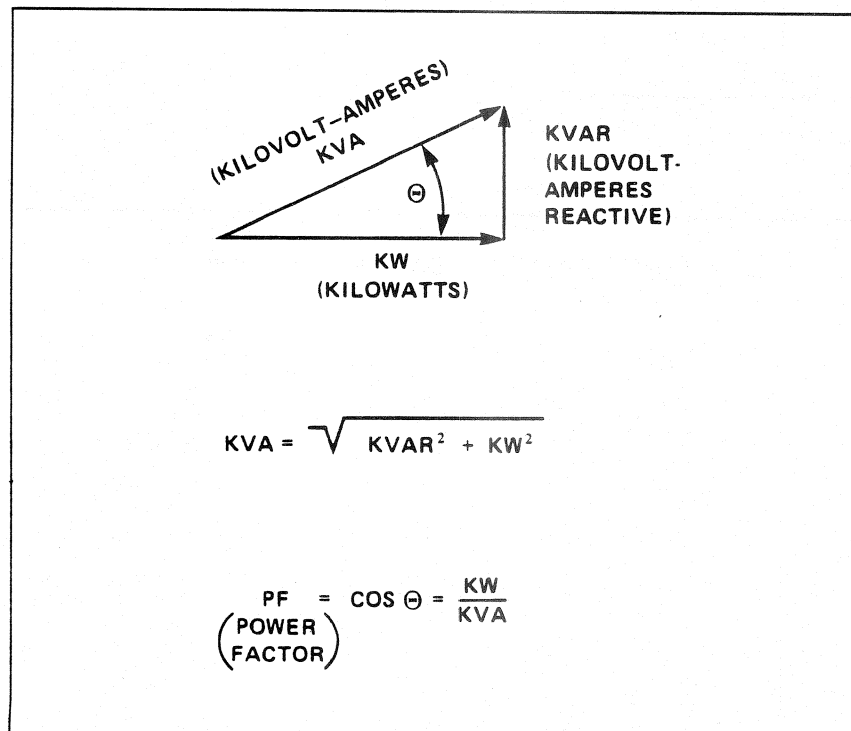
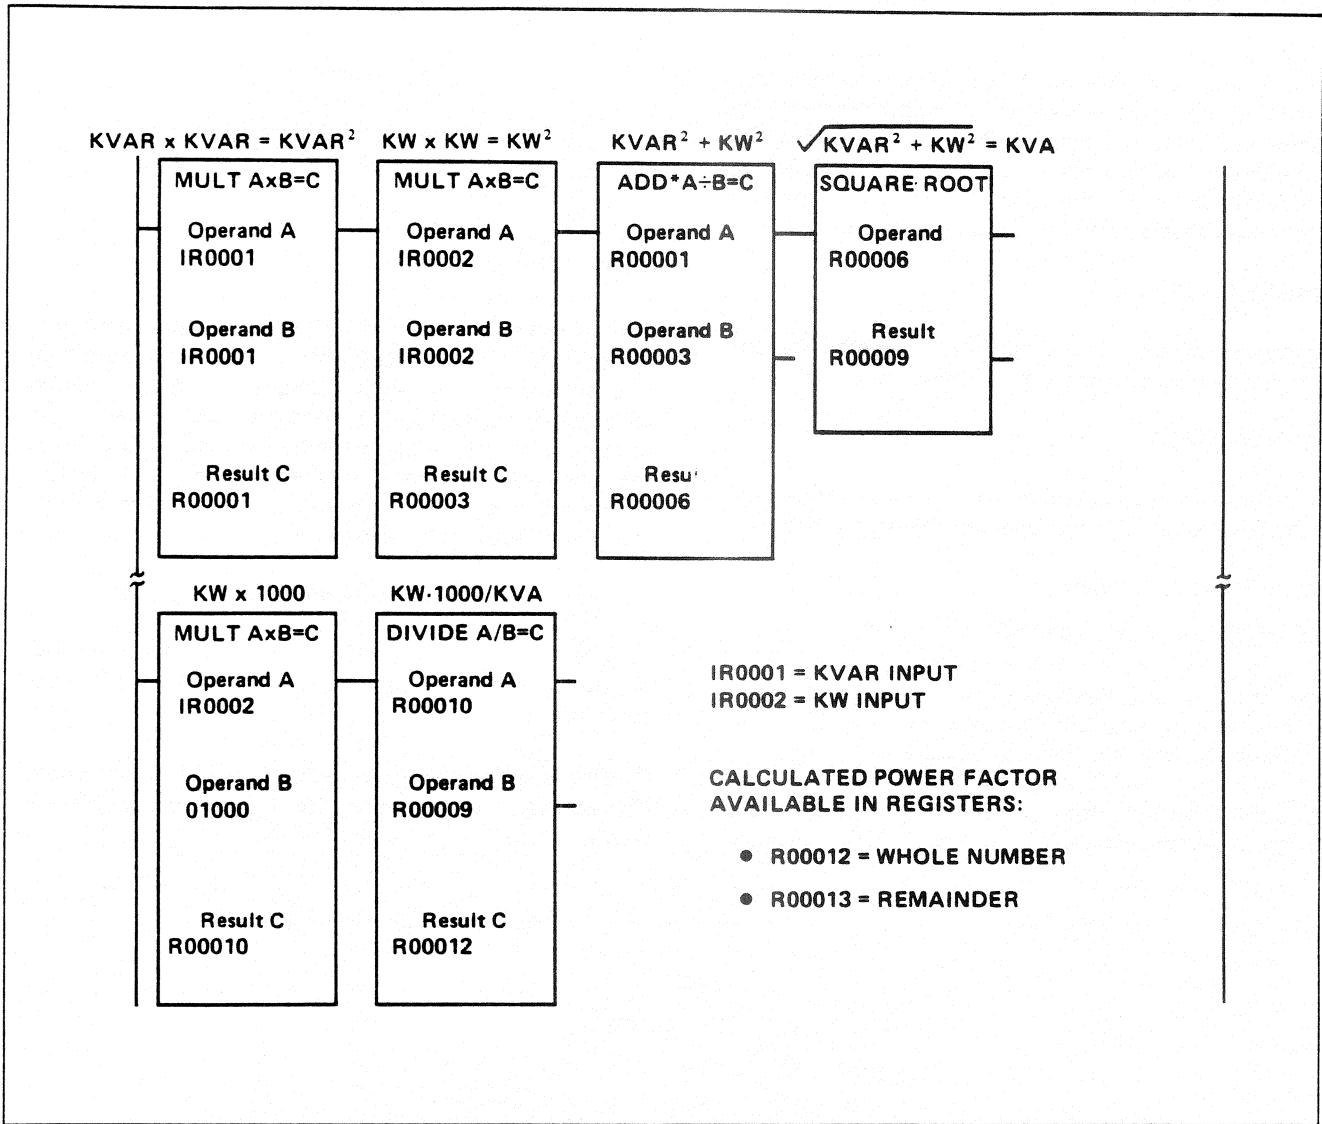

Figure SQ-2. Power Factor Calculation
Figure SQ-3. Power Factor Ladder Diagram
The analog outputs of a kilowatt/kilovolt-ampere (kw/kVAR) reactive transducer are converted to digital data by Analog Input Modules. Square roots are required to calculate a kVA value which is used to derive the power factor (PF) from these inputs. Figure SQ-2 shows the calculations required to derive that power factor. Figure SQ-3 contains the ladder diagram used to provide the power factor calculations.